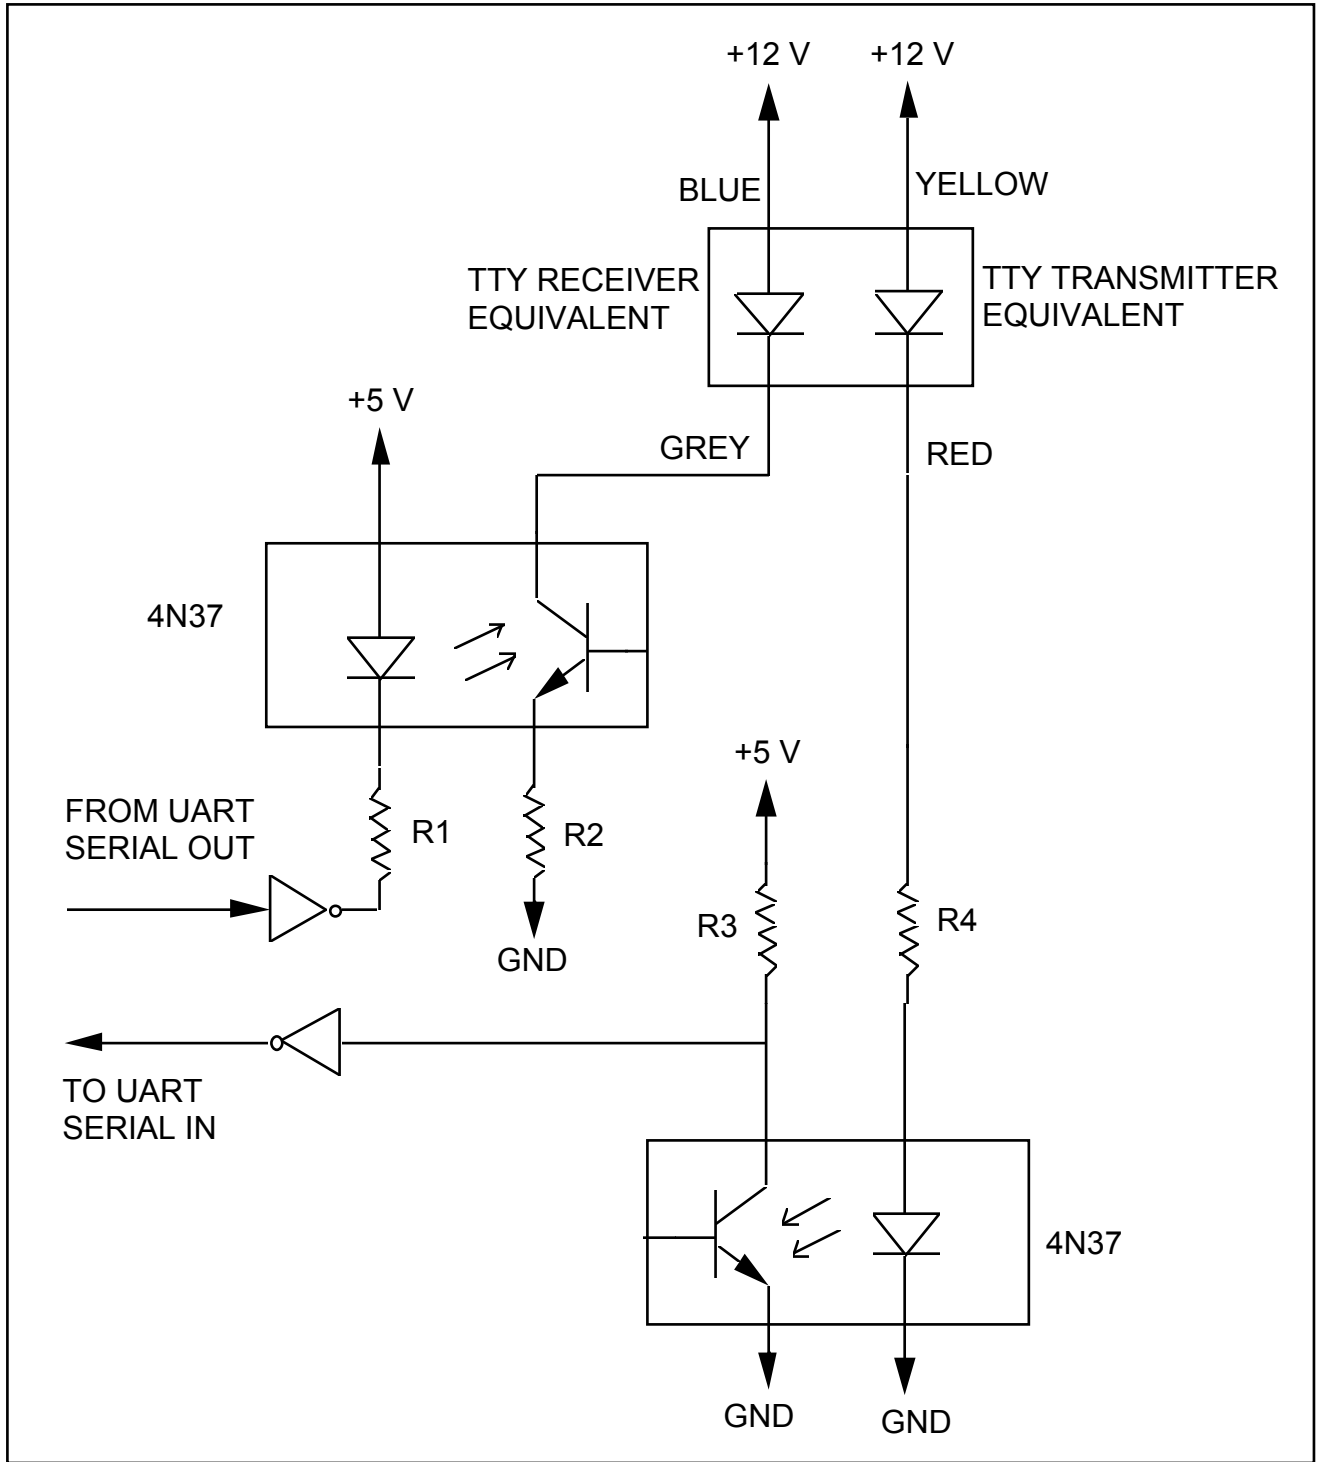

Figure 1: Optoisolator Circuit
A “current loop” employs current-based signaling. A logical “1” or “mark” is represented by 20mA flowing on the serial line; an open circuit with no current represents a logical “0” or “space”. While limited in speed as compared to RS-232, current loop offers better noise immunity and transmission distances in excess of 2000 feet. It is also possible to daisy chain multiple current loop devices as long as only one is active (supplying current to the loop) and the rest passive (switching or interrupting the current on the loop). Since a serial line should idle at a logical “1”, this means that full current should be flowing when no characters are being transmitted. A current loop circuit using optoisolators is shown in Figure 1.
The PC in the lab emulates a terminal by using HyperTerminal, set use the com1 port (RS232). The RS232 cable has a current loop converter module installed. The terminal is a passive device in this loop. The external circuit will be the active device and will have to provide the 20 mA on each common line. The +12V sources shown in Figure 1 must be supplied in the lab. All the terminal does is switch the current on and off. The terminal you will use in the lab employs the ASCII code and transmits and receives at 9600 baud.
flowing. The 4N37 optoisolator has a current transfer ratio of 100%. Use the optoisolator data at the location given in the reference section to find the input diode forward voltage and output transistor V_{ce} at saturation; assume that the drop across the TTY receiver (or transmitter) equivalent diode is 1.5 V when current is flowing in the loop. Show the calculations for all resistances in Figure 1. Select resistors R2 and R3 so that transistors are in saturation when idling; R1 so that the input current results in an appropriate output current; R4 so that TTL compatible voltage levels are achieved when the current loop is closed or open. Discuss the design technique used for this circuit. The pinout for the current loop cable is shown in Figure 2. NOTE: The terminal is passive in this circuit. Therefore you have to supply the +12V power supply to the receiver and transmitter circuits.
2. Referring to figure 1 and the optoisolator specifications, notice that the base lead of the output transistor is unconnected.